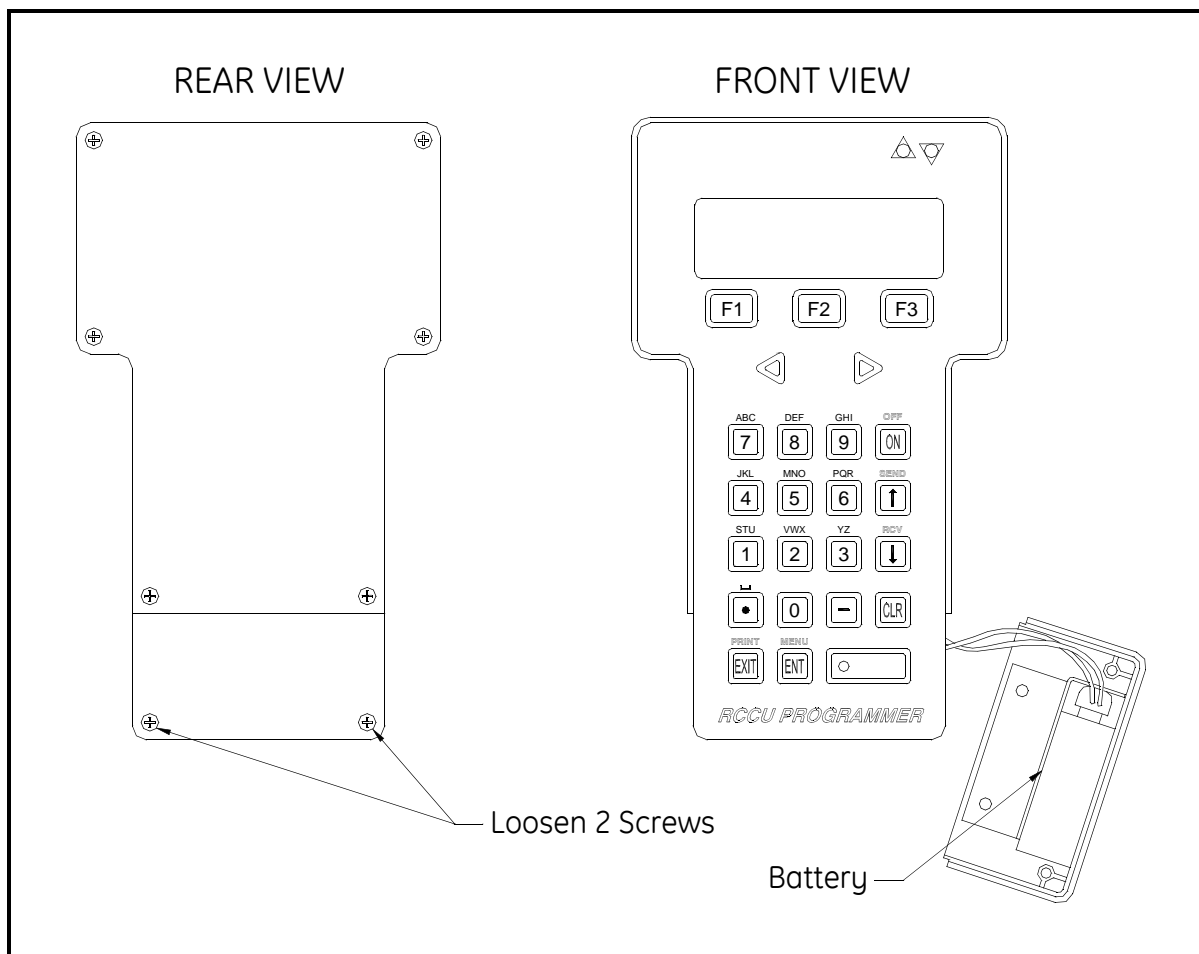

Figure C-5: Replacing the Battery (Standard RCCU)
1. Loosen the two (2) screws along the bottom edge of the back of the RCCU housing, as illustrated in Figure C-5 below. Remove the battery compartment cover.
4. Replace the battery and the battery compartment cover. Tighten the two (2) screws on the cover.
1. Remove the RCCU to a safe area before opening the unit. Loosen the two (2) screws along the bottom edge of the back of the RCCU housing, as illustrated in Figure C-5 on the previous page. Remove the battery compartment cover.